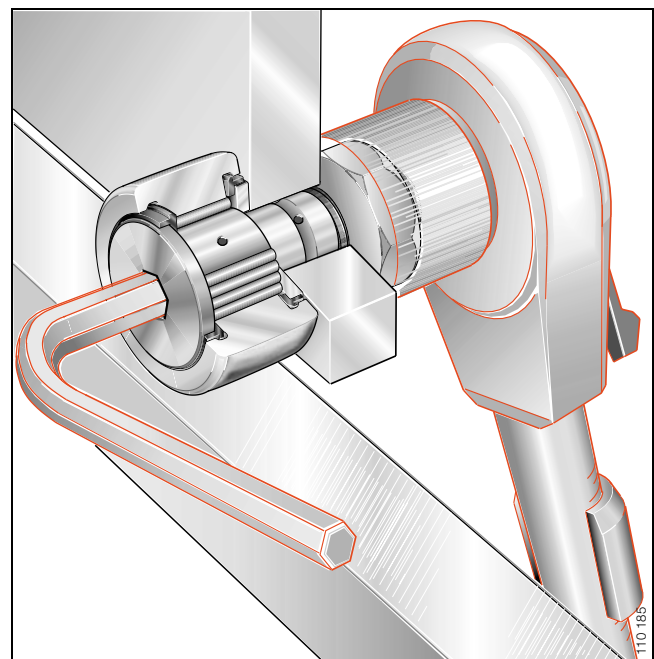

Figure 5 · Simplified fitting due to hexagonal sockets on both sides
- can be countertensioned more easily using a key while the fixing nut is being tightened (Figure 5)